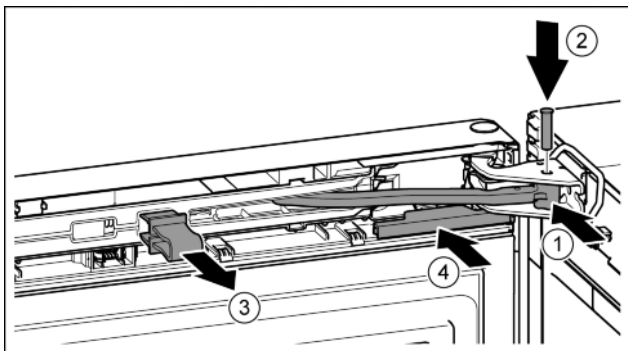

Fig. 41
- ▶ Turn the hinge in the bearing bracket. Fig. 41 (1)
- ▶ Insert bolt into the bearing bracket and hinge. Ensure here that the catch is properly fitted in the channel. Fig. 41 (2)
- ▶ Remove safety device. Fig. 41 (3)
- ▶ Slide on the cover. Fig. 41 (4)